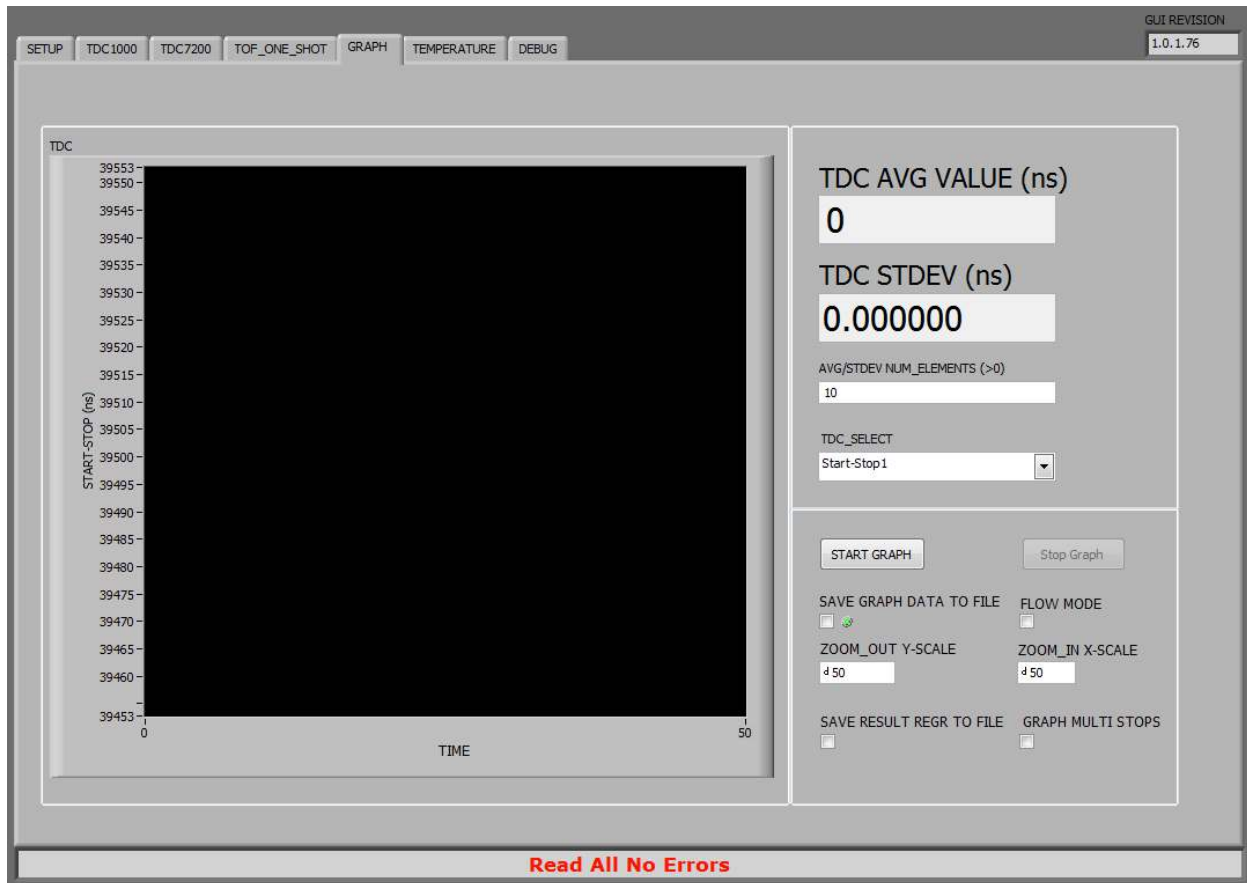

Figure 7. EVM GRAPH
2. The message at the bottom of Figure 7 -- “Read All No Errors” -- means that the GUI is up and running and all the registers and hardware connection are correct. Otherwise, refer to Section 4 and make sure to follow all the steps.